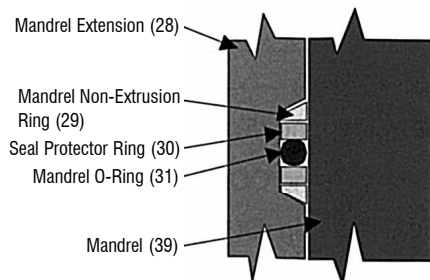

Figure 8-3: Mandrel OD Ring Seals
3. Mandrel (39): Install the O-Ring, two (2) Seal Protector Rings, and the Mandrel Non-Extrusion Ring onto the OD of the Mandrel, as seen in Figure 8-3, prior to the installation of the Mandrel later on in this procedure.